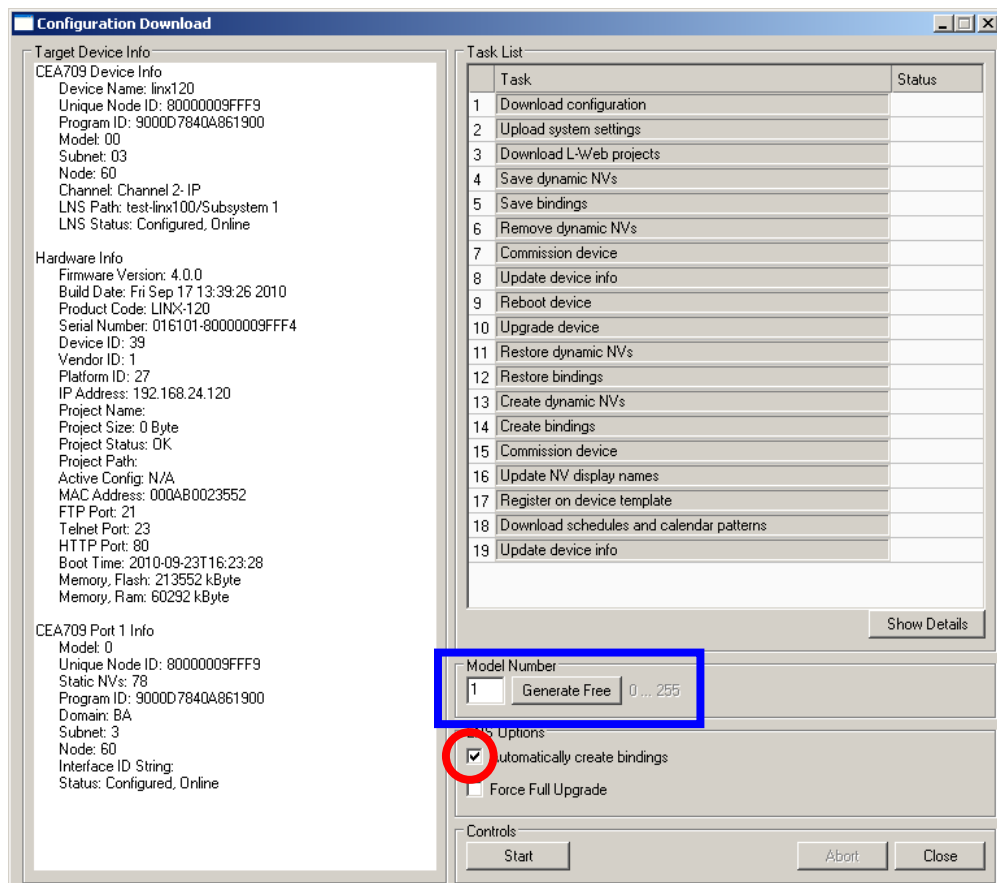

Figure 111: Configuration Download Dialog via LNS.
2. If no bindings shall be generated, deselect the **Automatically create bindings** checkbox indicated by the red circle in Figure 111.